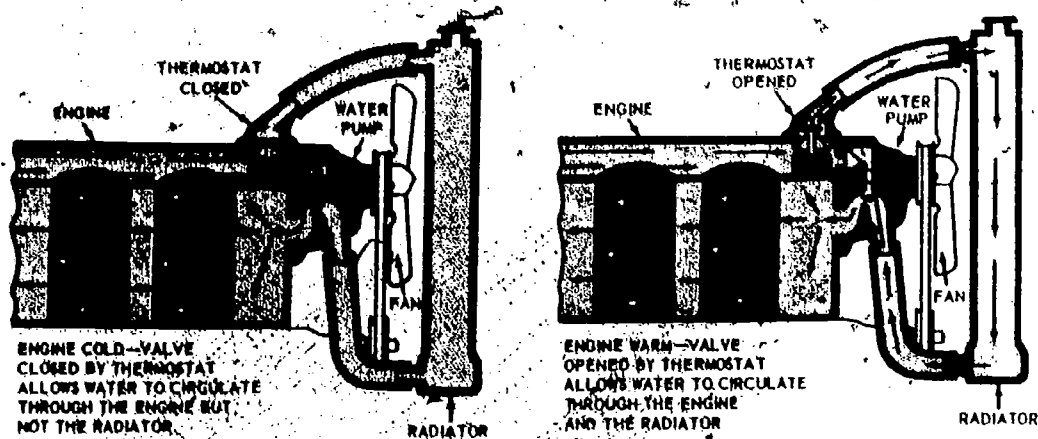

Fig 2-13. Operation of thermostat.
4. **Thermostat (fig 2-13).** An internal-combustion engine will operate more efficiently and economically when hot than when cold. The best operating temperature for an engine is just over the boiling point of water, 212° F, but to allow for margin of safety, it is usually controlled to a maximum temperature of 185° F. Normal operating temperatures range between 160°-185° F. The water pump starts circulating water through the system as soon as the engine is started, no matter how low the temperature, so a thermostat must be installed to insure quick warmup and to prevent overcooling in cold weather. The thermostat controls engine temperature by regulating the amount of water flowing from the block to the radiator.